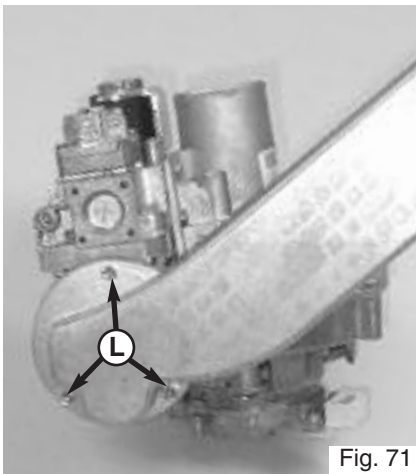

Fig. 71
3. Unscrew the three screws **L** on the air/gas pipe and remove (Fig. 71);